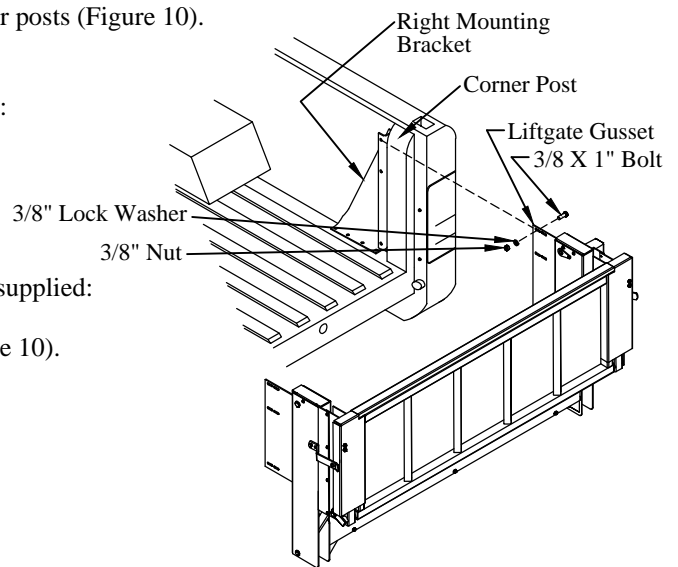

Figure 10: Mounting bracket and liftgate.
1. **Position** the mounting brackets into the truck bed in front of the corner posts (Figure 10). Do not drill holes for mounting brackets at this time.
- (3) 3/8"x1" hex head bolts on the bracket-side (Figure 10).
- (3) 3/8" lock washers, and (3) 3/8" nuts on the gusset-side (Figure 10).